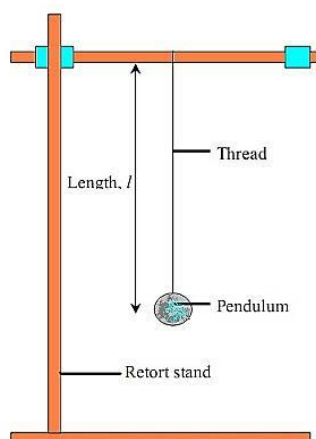

Figure 2
1. Set the pendulum apparatus as shown in Figure 2.